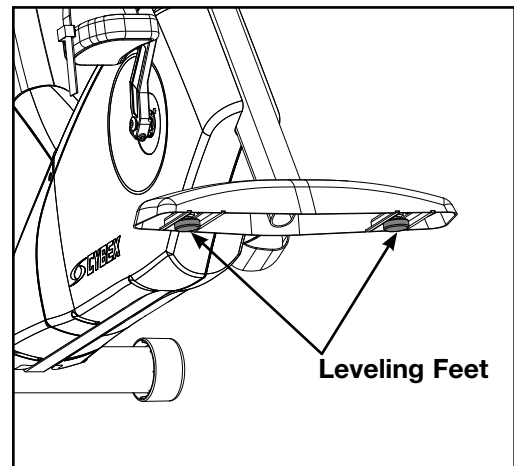

Figure 9
**A.** Confirm that the unit is on a level surface. If not, use a 9/16" open-end wrench to adjust the leveling feet up or down. See Figure 9.